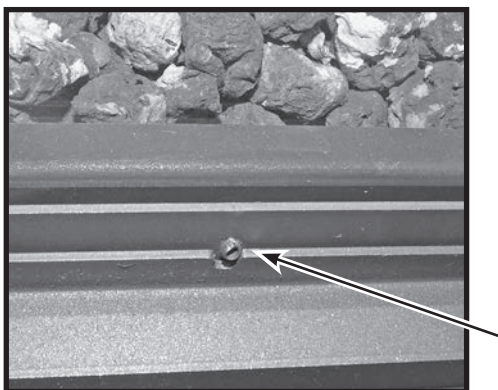

Figure 52: Glass panel position tab.
2. Align the glass door frame laterally so that its protruding positioning stud (Figure 52) fits into the slot in the firebox. This will line up the bolt slots at the top of the glass door frame to the firebox frame.